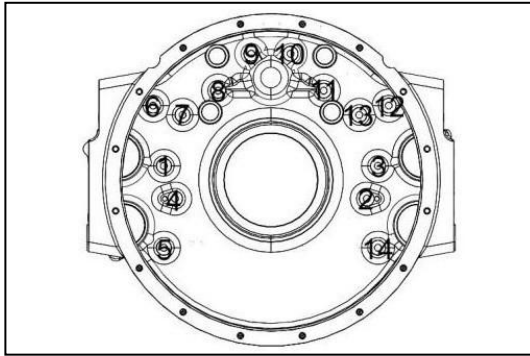

Figure 136
7. Tighten the bolts in two steps in the following sequence (Figure 136):